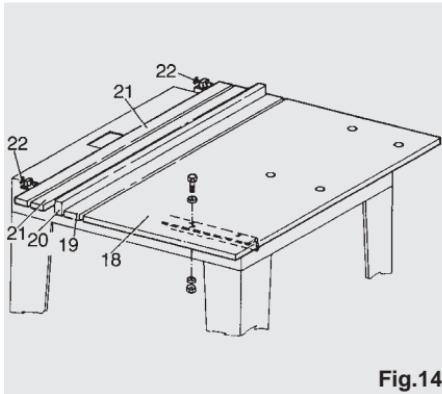

Fig.14
- 3) Carefully tighten all the screws of the brackets and proceed to fasten the worktable. Position the wooden worktable (18) and fasten it with the screws, washers and nuts as shown in figure 14. Then insert the following parts in succession:
- front strut (19), 85 mm in width;
- abutting straightedge (20), 60 mm in height;
- the two straightedges (21), 60 mm in width, behind the abutting straightedge;
- fasten everything to the worktable with locking wing-nuts (22).